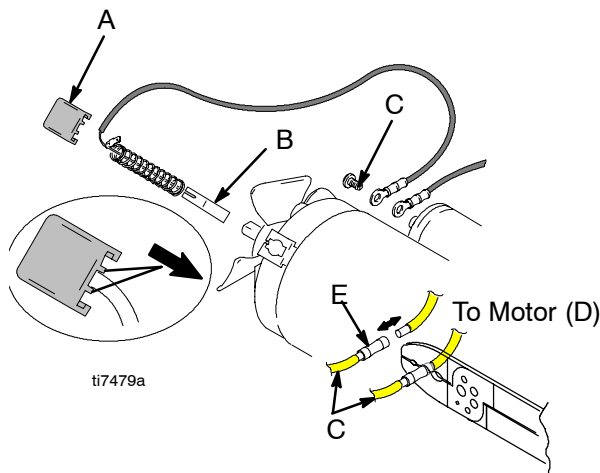

Fig. 9
- Fig. 9. Insert brush (B). Push cap (A) into place over brush. Orient each cap with the 2 projections on either side of the brush lead. You will hear a "snap" when cap is securely in place.
- Fig. 9. Install red (+) and black (-) motor leads according to tags. Install brush lead end with screw (C) to motor-mounted capacitor or route lead into control box and connect to board.